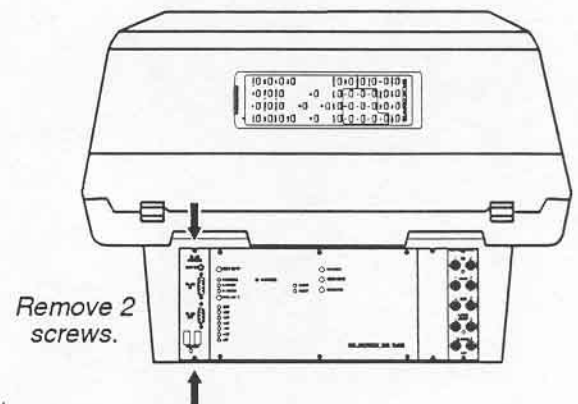

Figure 5-13. Comm. Module Removal
- Remove the 2 securing screws which secure the RS-232 Communications Module to the frame as shown in Figure 5-13.